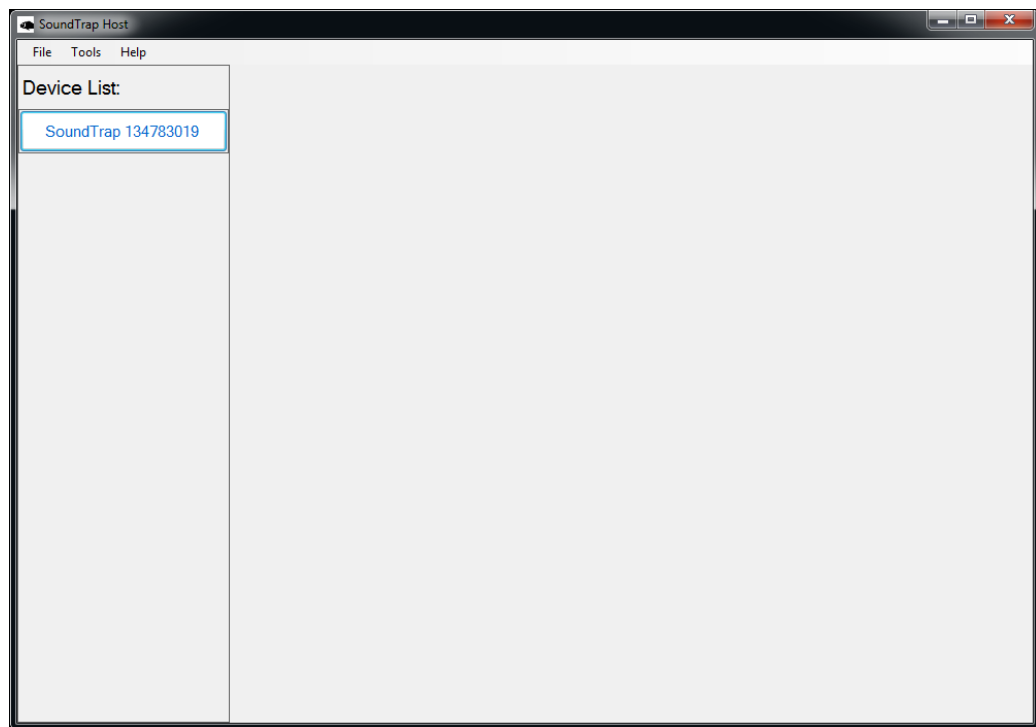

Figure 1 - The Device List
- The drivers will take a couple of minutes to install. Once complete you should see your SoundTrap appear in the 'Device List' on the left, as shown in figure 1.